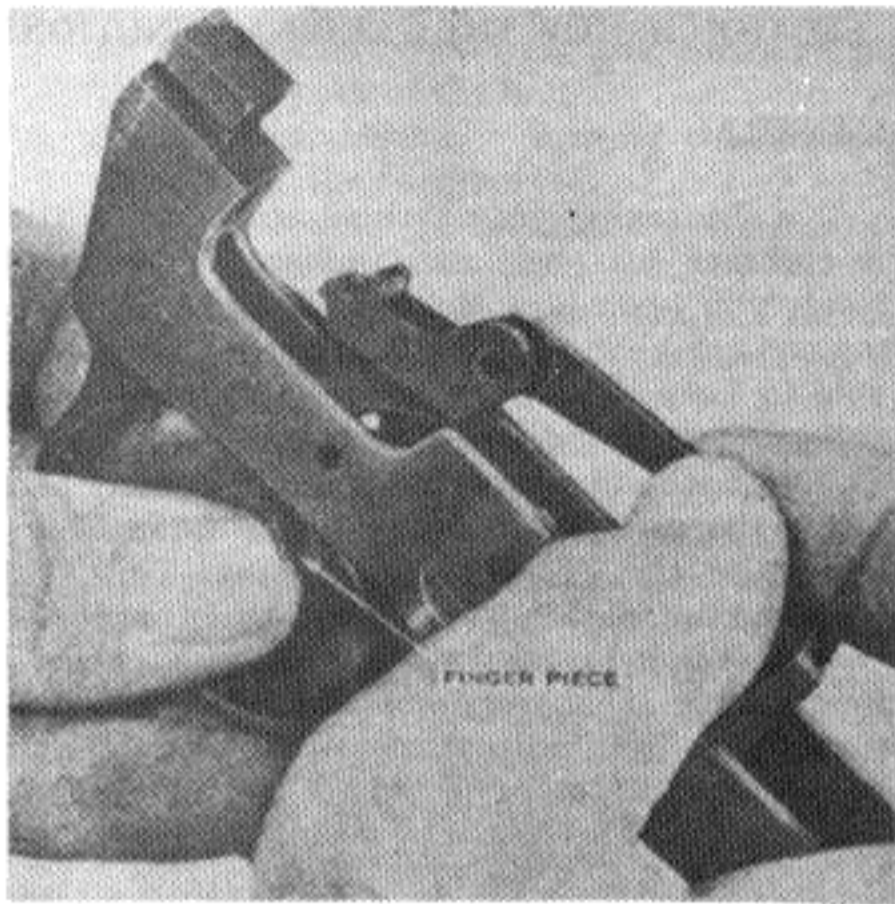

Figure 27. Replacing the trigger.
*d.* Hold the rear of the trigger housing group in your left hand. Grasp the long forward end of the trigger with the right thumb and forefinger. Hold the trigger level and place it down into the trigger housing group with the fingerpiece projecting part way through the floor of the trigger housing. Grasp the fingerpiece with the thumb and forefinger of the left hand which is holding the trigger housing group (Fig. 27). Position the trigger spring to the rear of the trigger so that the loop end rests in the slot in the rear top face of the